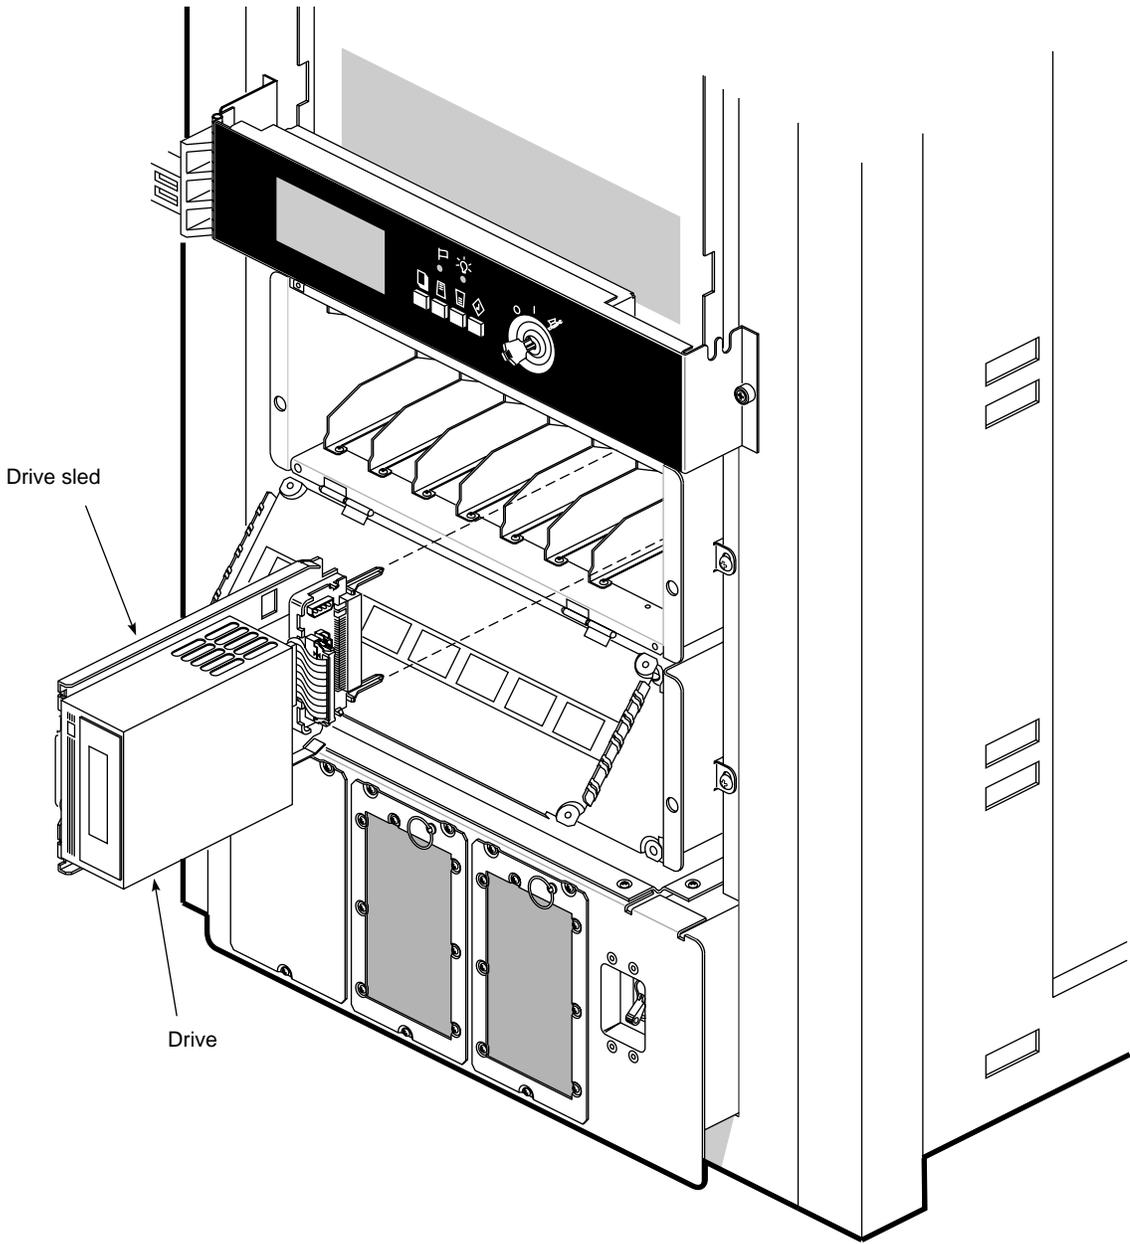

Figure 3-7 Installing a Front-Loading Device
4. Orient the FLD relative to the SCSIBox so that the drive is facing toward the right (see Figure 3-7).